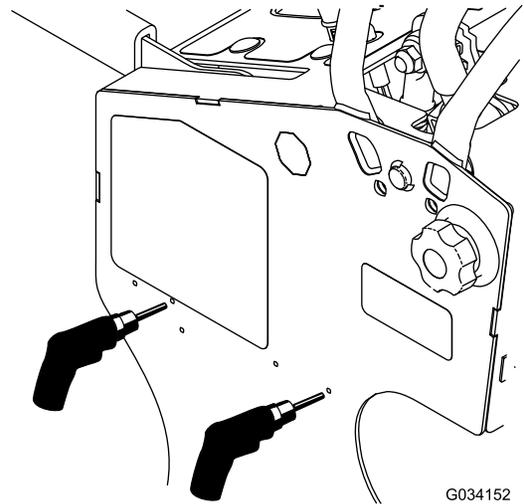

Figure 3
2. Use a 3/8 inch drill bit to drill open the 2 holes on the left side of the machine shown in Figure 3.